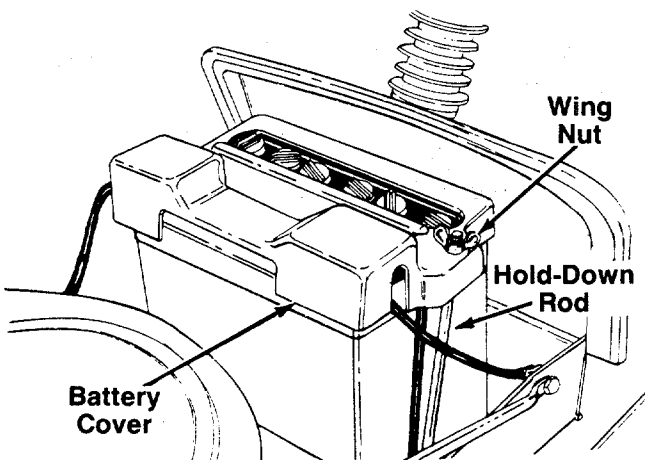

FIGURE 7.
5. Hook one hold-down rod into the hole in the edge of the battery bracket beside the battery. See figure 6. Place the black plastic battery cover in position over the hold-down rod. Secure with wing nut. Attach other hold-down rod to the other side of battery cover in the same manner. See figure 7.